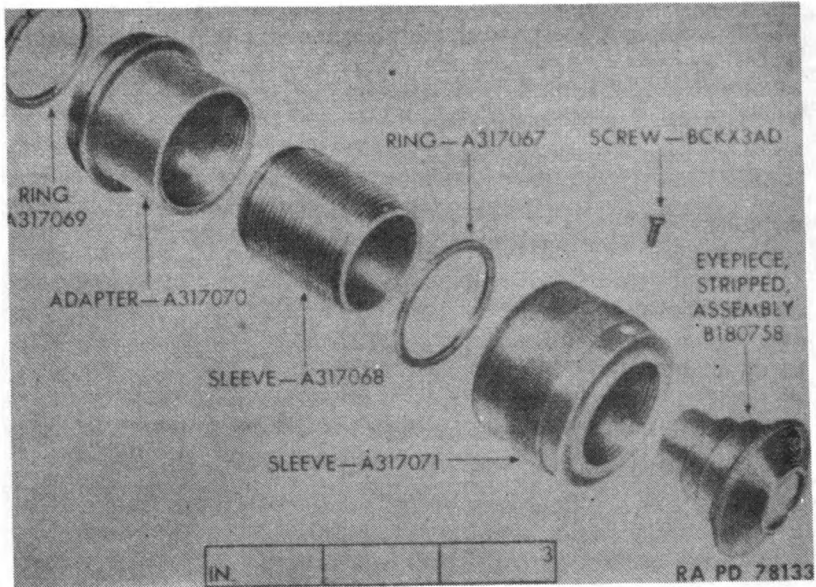

Figure 15—Observation Telescope M49—Focusing Mechanism With Eyepiece Assembly C130787 Partially Disassembled
(2) Remove eyepiece assembly C130787 from prism housing assembly by unscrewing adapter (fig. 15).
(3) Unscrew stripped eyepiece assembly B180758 (fig. 15) from focusing sleeve A317071.
(4) Loosen locking screw BCKX3AD and remove focusing sleeve from threaded sleeve A317068.
(5) Unscrew threaded sleeve from adapter A317070. NOTE: The threaded sleeve is screwed into the adapter from the front and is unscrewed by turning in a clockwise direction.
(6) Remove stop ring A317067 from front end of threaded sleeve, exercising care not to damage threads in doing so.